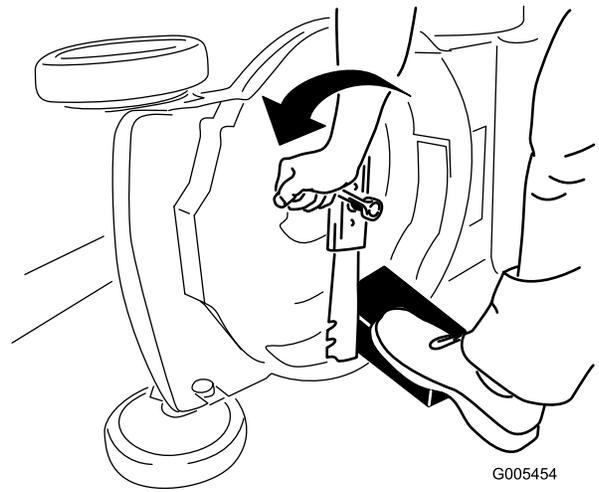

Figure 25
4. Remove the blade, saving all mounting hardware (Figure 25).
3. Use a block of wood to hold the blade steady (Figure 25).